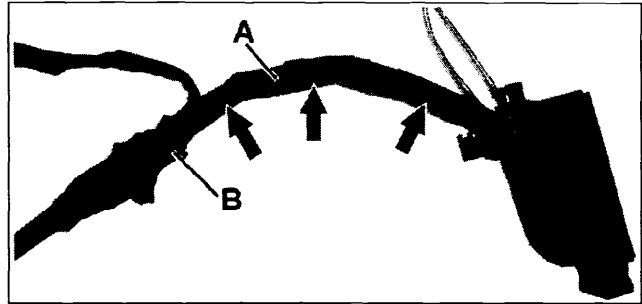

Figure 6
12. Remove fabric tape (arrows, Figure 6) from wire harness (A) up to rubber grommet (B).